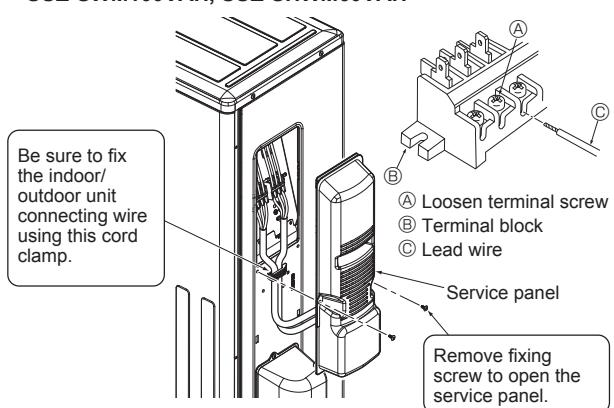

Fig. 6-3
6.1. Outdoor unit (Fig. 6-1, Fig. 6-2, Fig. 6-3)
- ① Remove the service panel.
- ② Wire the cables referring to the Fig. 6-1, Fig. 6-2 and the Fig. 6-3.